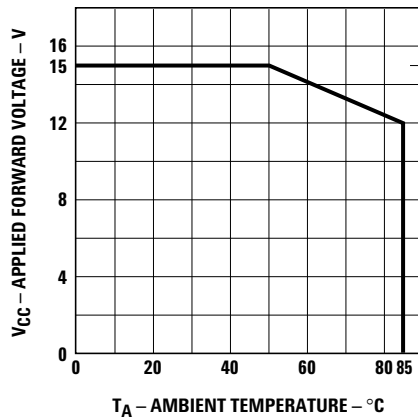

Figure 4. Maximum allowed applied forward voltage vs. ambient temperature $R\theta_{JA} = 175^{\circ}\text{C/W}$. 12 volt devices.
- Derate from $T_A = 50^\circ\text{C}$ at 0.086 V/°C, see Figure 4.